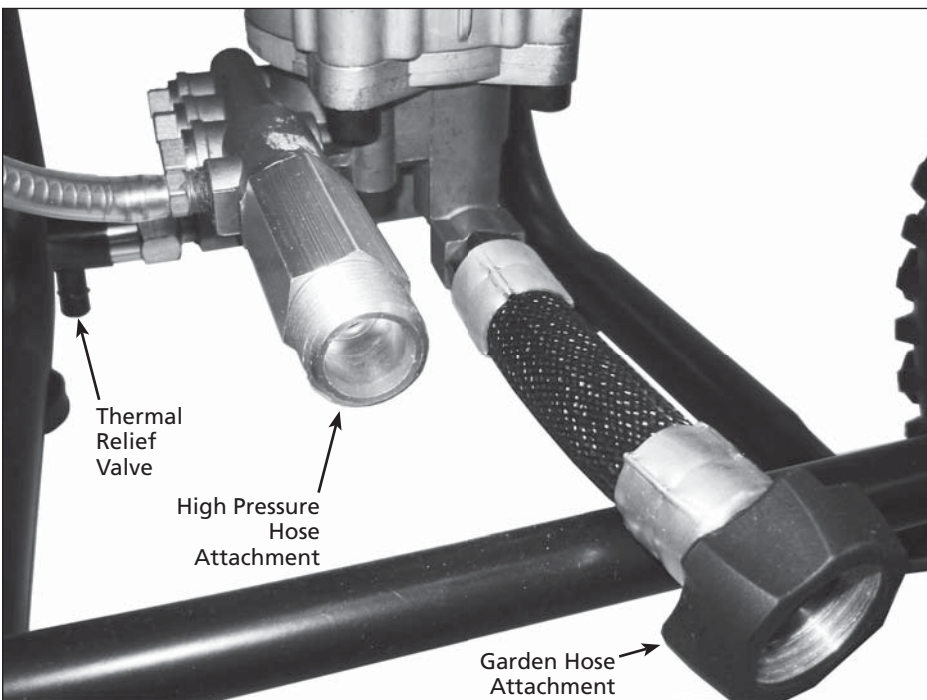

Figure 5 - Pump hook up
2. Secure garden hose (not included) to the garden hose attachment on pump (see Figure 5).
3. Connect the high pressure hose to the pump outlet (see Figures 5 and 6).